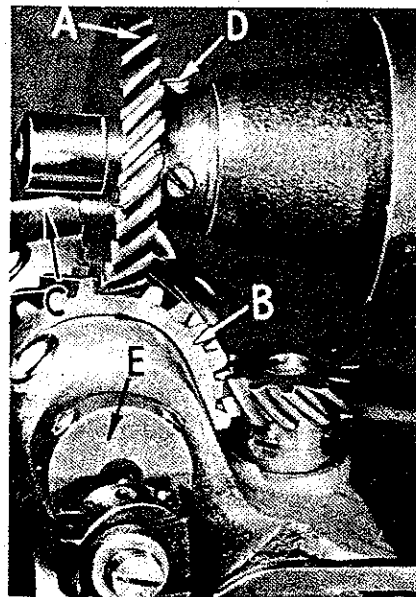
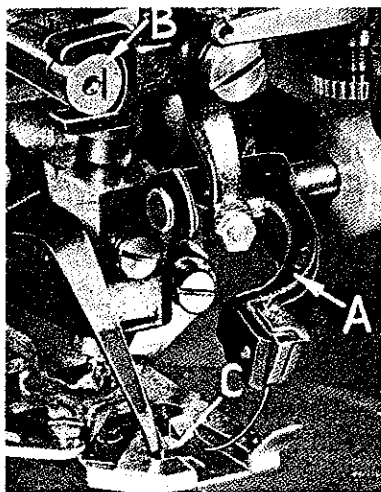
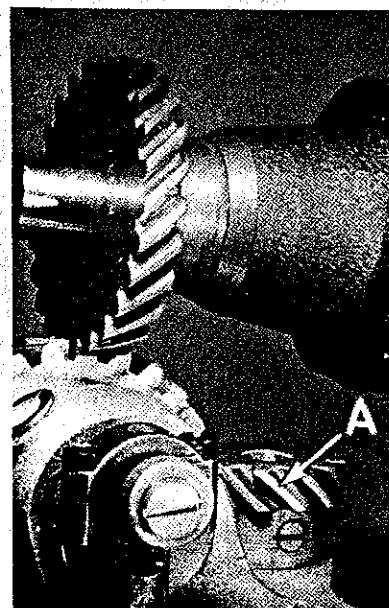
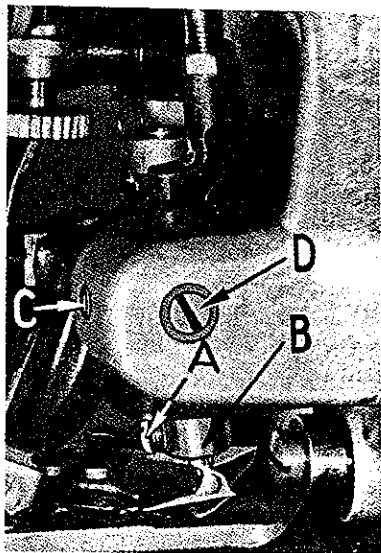

Fig. 2
Fig. 3
Fig. 6
Fig. 7
Remove head cover. With machine in stop position, remove gear (A, Fig. 2) from main shaft. Turn head main shaft gear (B) until the take-up lever (C) is at its highest point. Replace main shaft gear (A) with spot screw (D) in line with timing slot in main shaft. Tighten screws.
With machine in stop position, loosen screws in the needle drive crank (E, Fig. 2), and turn crank until needle carrier (A, Fig. 3) is at highest point of travel, and tighten screws in crank.
Loosen set screws in the looper drive shaft gear (A, Fig. 6). Turn pulley in operating direction until needle has reached the forward end of its left side travel and returned  $\frac{3}{32}$  inch. Turn looper and its shaft so that the point of looper is over center of needle, and tighten set screws in gear (A). Lower point of looper as close to the needle as possible without deflecting the needle. Loosen screw (A, Fig. 7) to make this adjustment.
To check adjustment of needle height, turn the pulley in operating direction until screw (A, Fig. 7) in looper driving gear (B) points to right of machine. At this point the needle point should be approximately  $\frac{1}{16}$  inch past the front edge of needle guide (C, Fig. 3) on presser foot, and just contacting needle guide.
If needle point strikes needle guard too far forward of the  $\frac{1}{16}$  inch dimension, or too hard, an adjustment can be made by loosening set screw (C, Fig. 7) and inserting a screwdriver in slot of needle carrier eccentric shaft (D). Turn eccentric shaft as required to bring needle carrier up or down and tighten set screw. After making this adjustment check and be sure there is no play between needle and needle guide when needle point is over center of plunger No. 26-173. After making this adjustment it may be necessary to reset the adjustment under "Adjust Stroke of Needle" and "Timing the Looper".